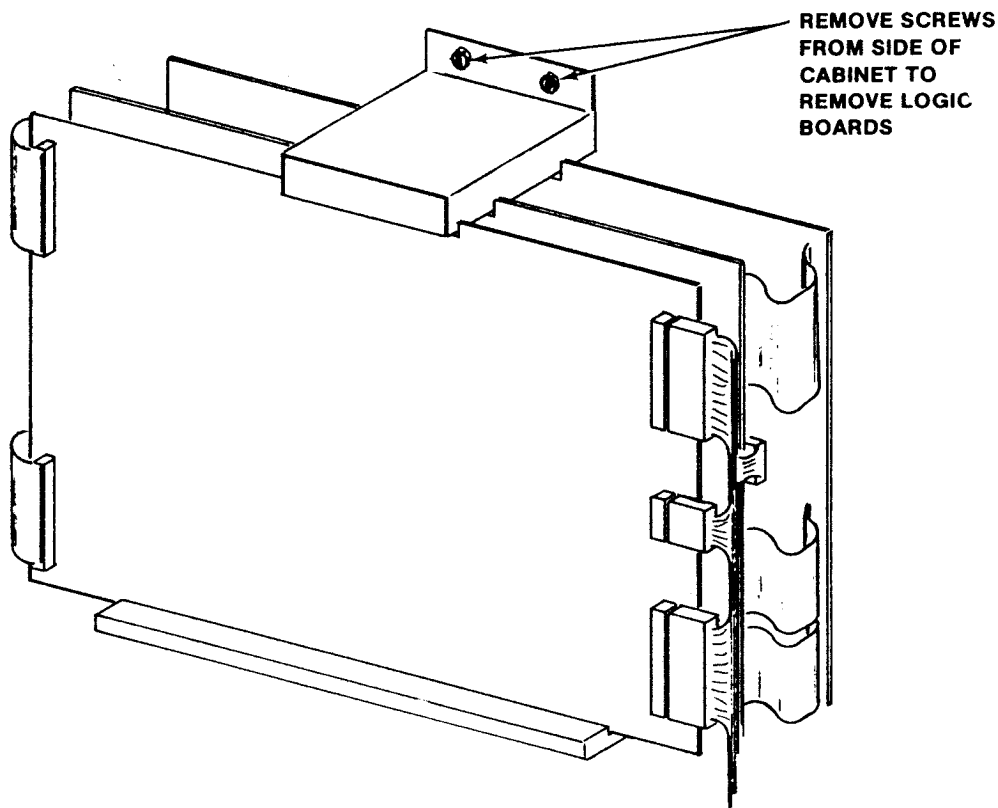

Figure 4-14 Removing PCBs From Card Rack
- ☐ To remove the P.C. boards from the card rack. See Figure 4-14.